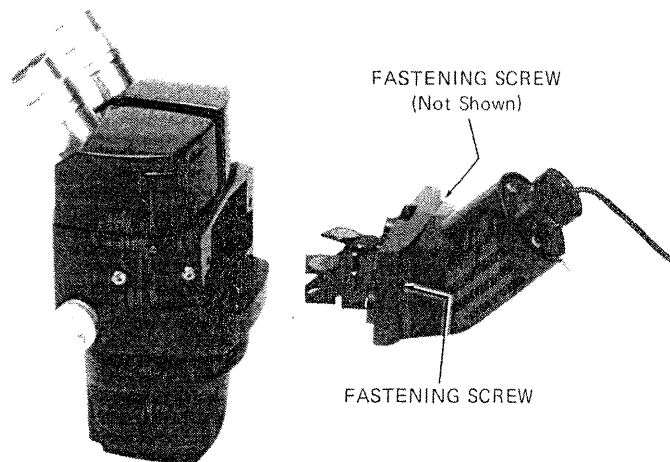

Figure 9.
- 2.) Carefully slide the coaxial illuminator into the rear of the body, and fasten with the two screws as in Figure 9.